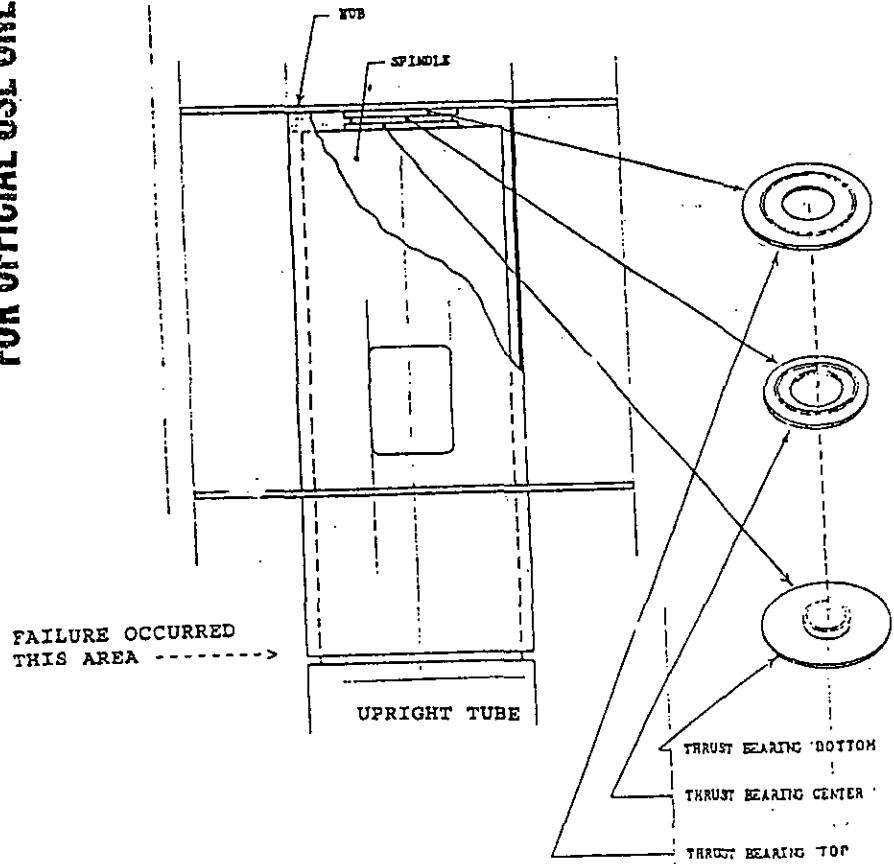

FIGURE 1 - AREA OF FAILURE
1. Measure the gap between the hub and the upright tube. The gap should be 3/8-inch to 1/2-inch wide. If gap is insufficient, pull hub and upright tube apart. Inspect all surfaces for wear and cracking. Welds on the entire tubes surfaces and structure should be inspected for cracks. Repair as necessary. Non-destructive techniques should be used for crack inspection [See Fig.1].